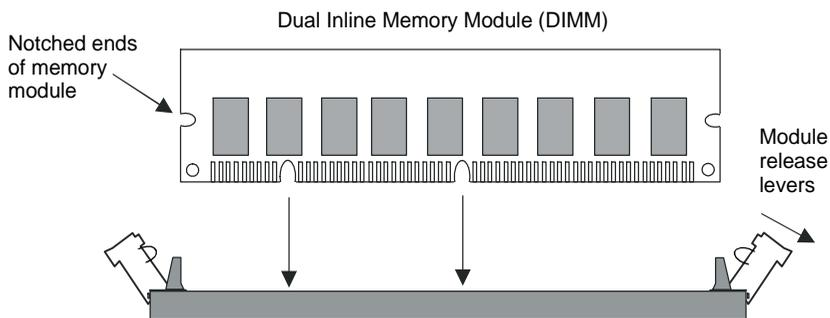

Figure 3-1. DIMM Installation
- 1) Move the module release levers on the SBC (one on each end of the socket) outward, away from the socket (Figure 3-1).